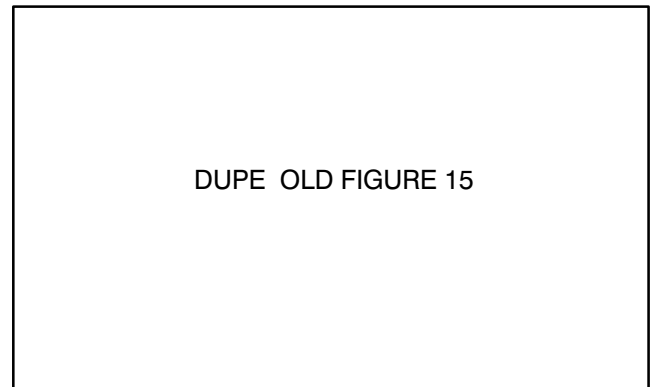

Figure 15
3. Remove dipstick and wipe it with a clean rag (Fig. 15). Push dipstick down into the tube and ensure it is fully seated. Pull dipstick out of the tube and check level of oil. If oil level is low, remove filler cap (Fig. 15) and add enough oil to raise level to top notch on dipstick. DO NOT OVERFILL.